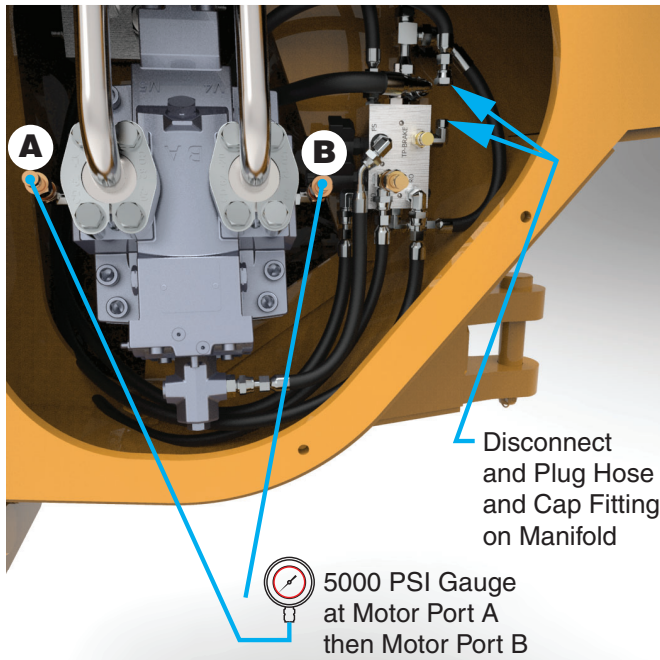

Figure 3-5 Test Equipment Setup
2. Disconnect and plug the brake release hose at the control manifold, and cap the fitting. See Figure 3-5. This will lock the winch brake to build pressure in the motor.